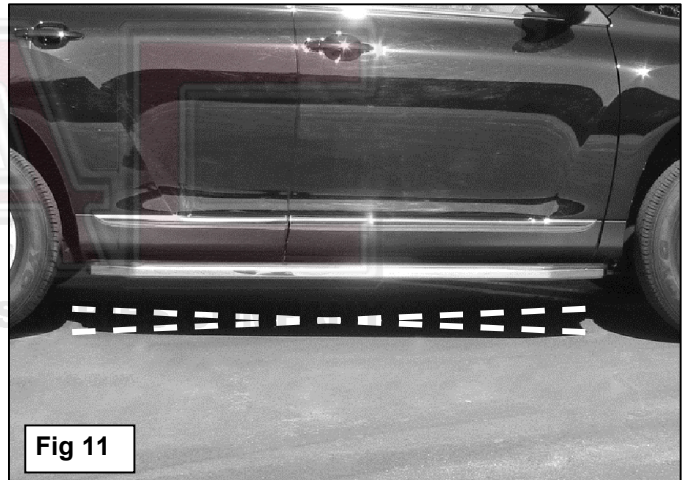

Fig 11
- a. Check to see if the Running Board is level to the car, front to rear, not level to the ground, (**Figure 11**). To adjust, loosen the 10mm Bracket hardware and slide the Brackets up or down the lower body panel. Once level, tighten the 10mm Bolt Plate to Bracket hardware only. The Hex Bolt on the back of the Mounting Bracket for the Support Plate should be completely loose at this time.